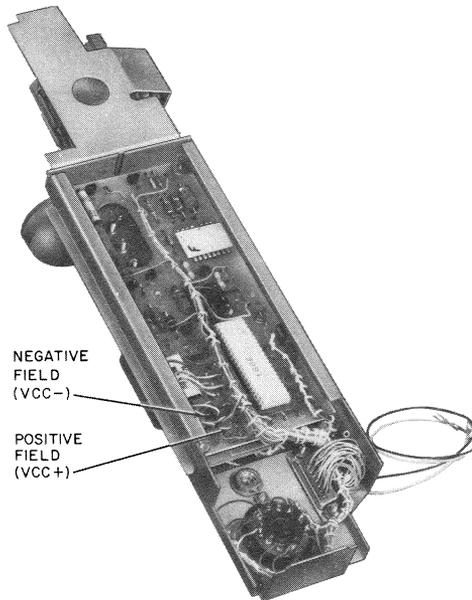

Fig. 5—32A Coin Chassis (Rear View)
2.13 Setting of initial rate is done by inserting one or more leads into the *negative* field (VCC-) (Fig. 5). Six leads, terminated on back side of chassis are color coded and individually plug ended. Each lead represents a specified amount. These plug-ended leads are pressed on the tubular connectors to establish an initial rate setting.